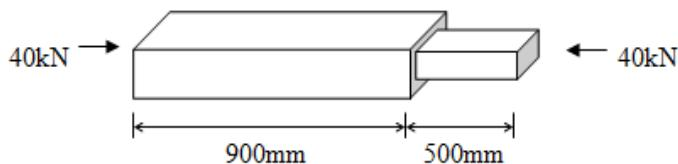

Figure B4(b) / Rajah B4(b)
- CLO2 (b) **Figure B4(b)** showed a steel bar tied strongly to an aluminum bar with their individual length of 900mm and 500mm. The steel bar cross sectional area is 250mm^2 and the aluminum bar is 200mm^2 . Calculate the total reduction experienced by the bar when subjected to a compression load of 40kN.